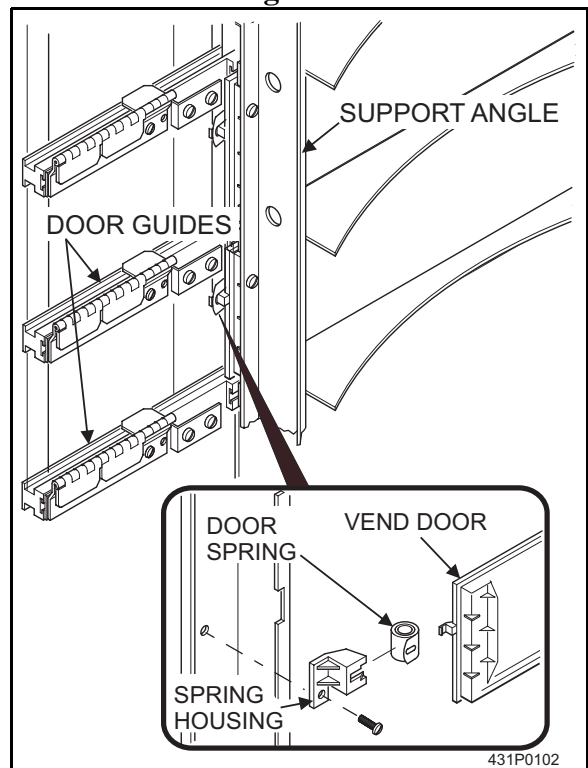

Figure 21
6. Remove the screw securing the spring housing to the cabinet door. Remove the spring housing (figure 21).